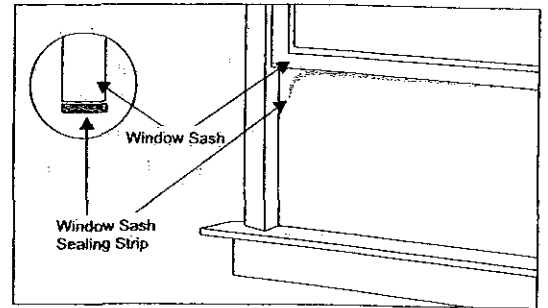

Fig 12
D. Cut the 1st foam sealing strip to fit the underside of the bottom **window sash**. Remove the peel-off backing on the foam and attach it to the sash. See (Fig 12)
D Cut the **first foam sealing strip** to fit the underside of the bottom **window sash**. Remove the peel-off backing on the foam and attach it to this sash. See (Fig 12)